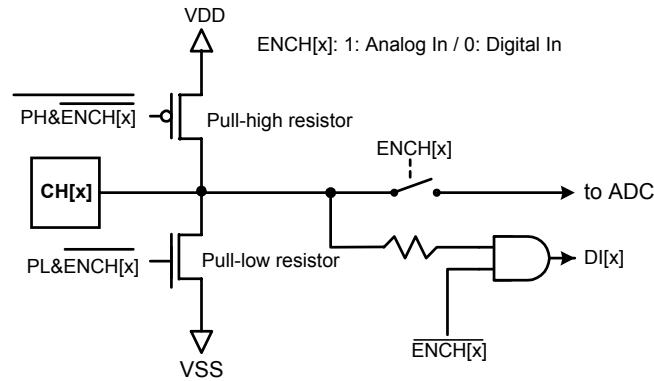

Figure9 Circuit diagram of the Input Channel PAD
1. If a channel is programmed to analog input mode, then the corresponding internal signal, $ENCH[x]=1$. As in Figure9, pull-high and pull-low are disabled. And the path to digital input is blocked. All digital reading operation of this channel will get the result "0".
2. If a channel is programmed to digital input mode, then the corresponding internal signal, $ENCH[x]=0$. As in Figure9, the path to ADC is removed.
3. While in digital input mode, this input port can be configured to be floating, weak pull up, or pull down by setting the control register PH and PL as Figure9, where $PH\&PL=1$ is forbidden. The weak pull resistance is about $500K\Omega@3v$.